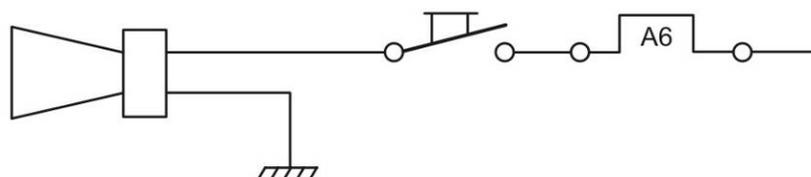

Figure 77 Horn
**186. Horn.** When the ignition is switched on, power is supplied via circuit breaker A6 to the horn circuit (Figure 77).